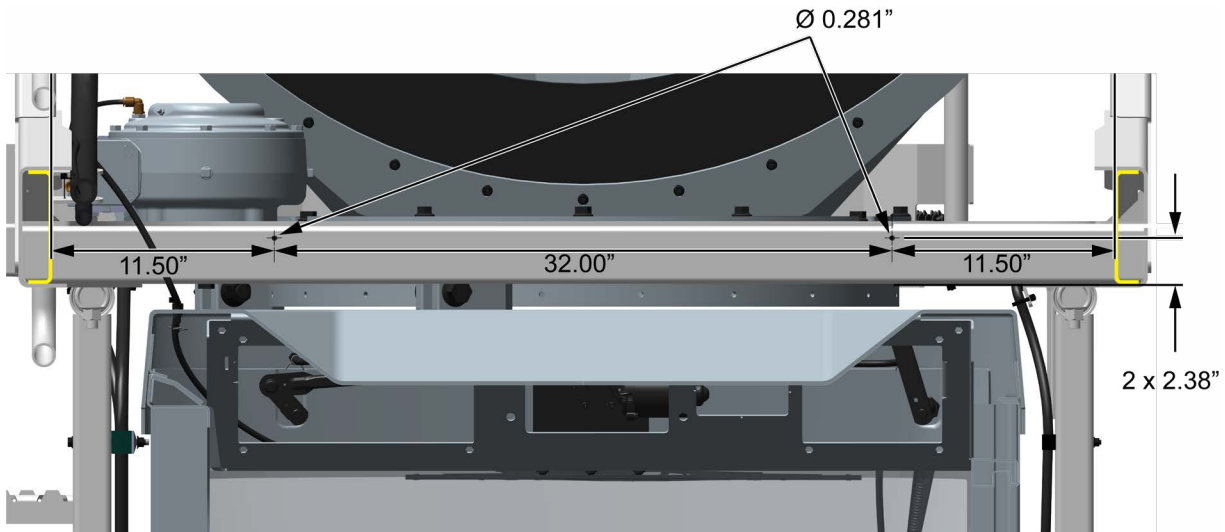

Figure 2. Deflector Mounting Holes
6. Mark and drill two 9/32" mounting holes in superstructure center support. See Figure 2 for hole locations. The roof runoff bracket (A001G401) can also be used as a template to mark hole locations.